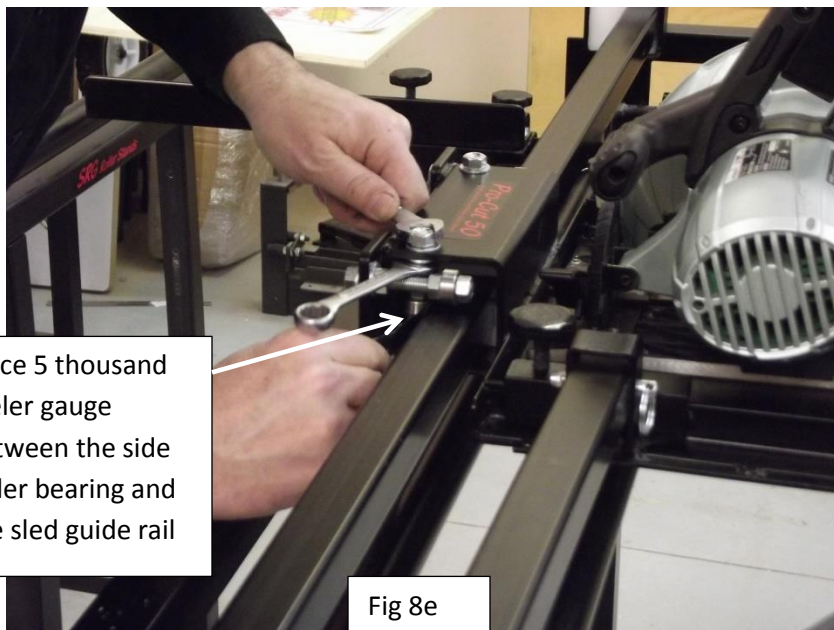

Fig 8e
Place a 5 thousand inch feeler gauge between the (2) sled SIDE ROLLER bearings and the sled guide rail Fig 8e). *(NOTE: if you do not have a feeler gauge, one sheet of 20lb bond paper compressed is approximately one thousand of an inch. You can use 5 strips of paper).* *(NOTE: To make it easier, you can tape the feeler gauge or paper to the sled guide rail until you have finished your adjustment).*